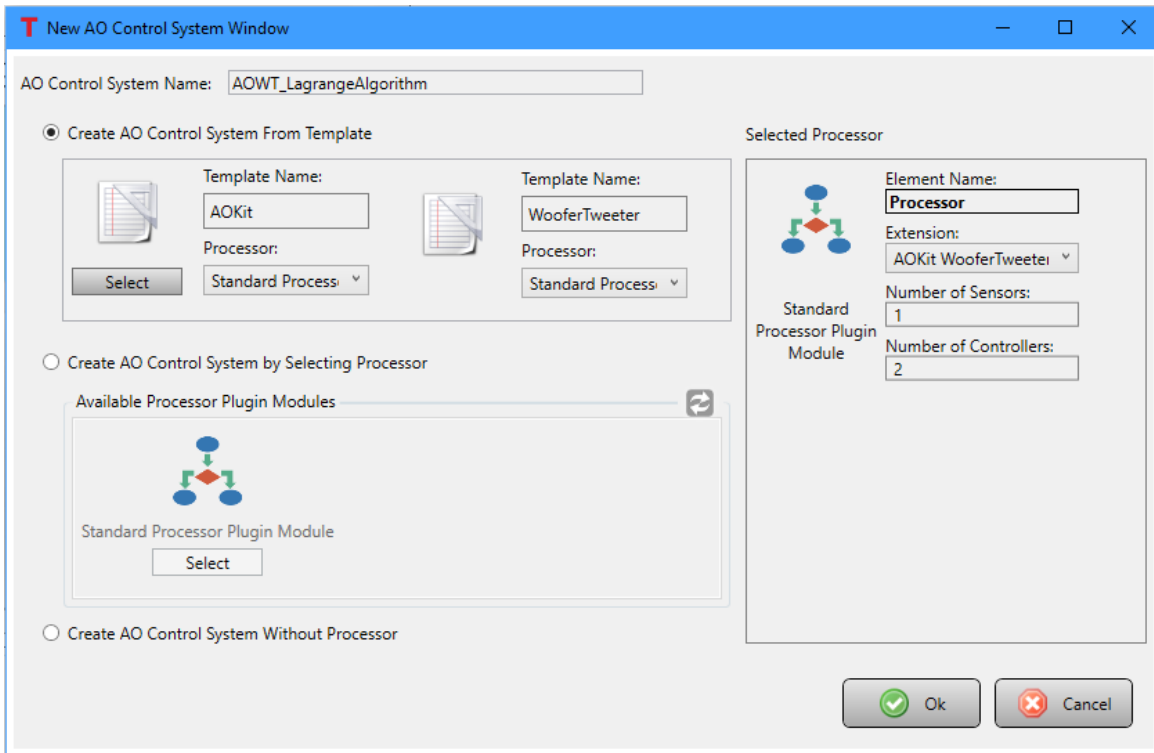

Figure 86 Within the Create Control System From Template options, select the WooferTweeter template.
2. Click the button to the left of the **Create System From Template** option. Then select the template named WooferTweeter. A processor will appear in the Selected Processor box at the right side of the window. See Figure 86. There is a dropdown menu under the Extension option for the processor; from this menu select the processor type to use with the AO control system. Three options are available: AO Kit WooferTweeter Lagrange Based Processor Extension Module, AO Kit WooferTweeter Orthogonal Based Processor Extension Module, and AO Kit WooferTweeter Standard Processor Extension Module. See Section 5.3 for details about these three options.